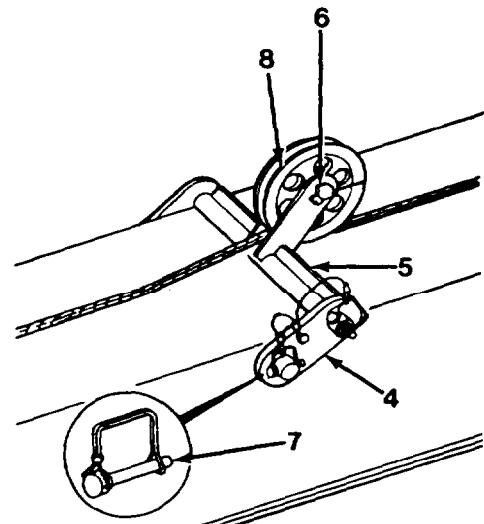

Figure 5-8 *Sheaves*
5. Remove toggle sheave brackets (5) and attaching links (4) from boom (Figure 5-8) as follows:
- a. Remove two pins (6) and sheaves (8) from toggle sheave brackets (5). Stow sheaves (8) in tool box. Remove cable from bracket (5) and restow pins (6) in brackets (5).
- b. Remove lynch pins (7) and attaching links (4) from studs on top of boom.
- c. Remove cable from between ears and remove toggle sheave brackets (5).